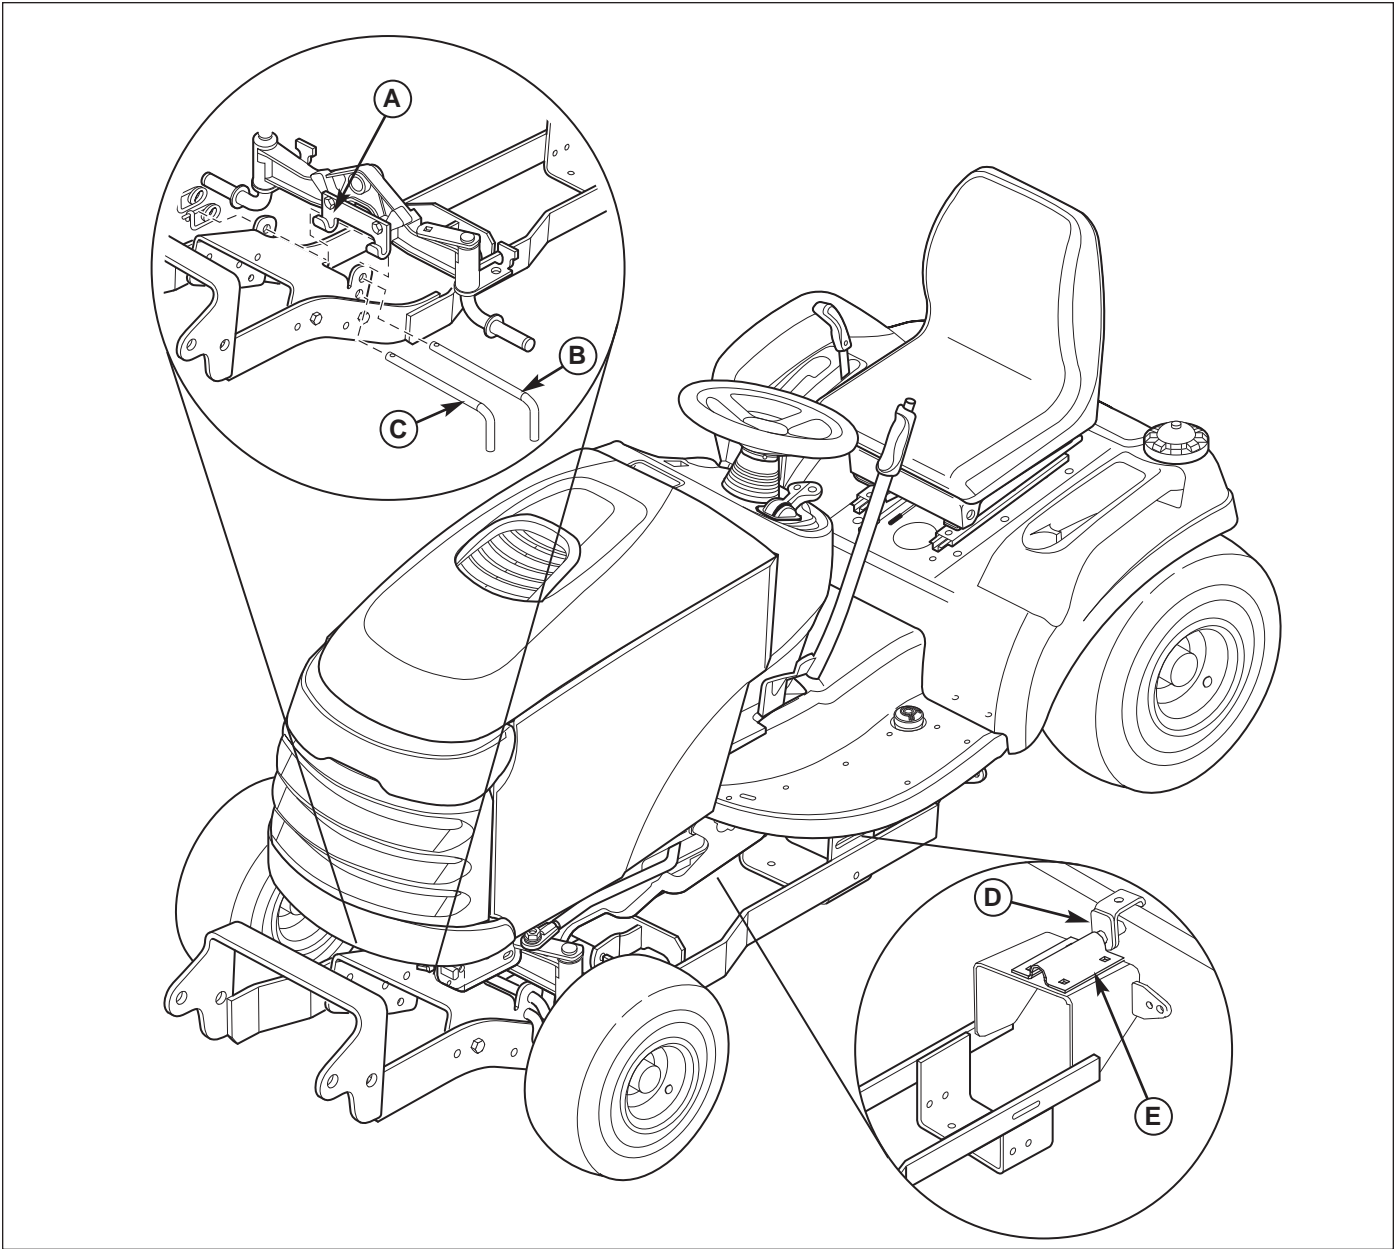
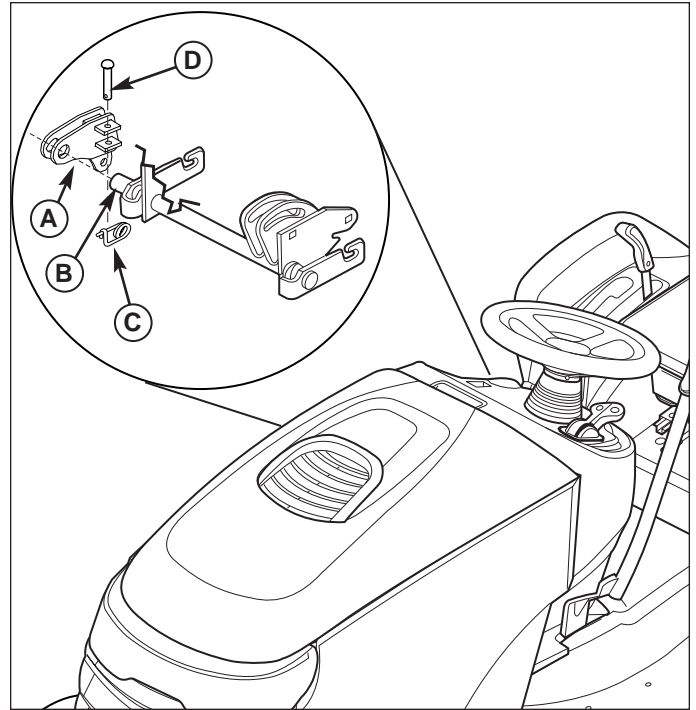

Figure 7. Install Hitch
Figure 8. Install Lift Lever
2. Raise the rear of the hitch and place the hook (C) over the lift shaft.
3. Connect the front of the hitch to the tractor J-hooks (A, Figure 7) using the hitch rod (B) and a safety clip in the top holes of the push bar latch.
4. Secure the front of the hitch to the tractor by attaching the hitch rod (C) and a safety clip in the bottom holes of the push bar latch.
5. Push the clamp plate (D) backwards until it is snug against the lift shaft. Tighten the clamp plate hardware (E).
1. Slide the lift lever (A, Figure 8) onto the end of the tractor lift shaft (B) under the right side footrest.
2. Use the tabs on the lift lever (A) to capture the tractor lift arm. Secure in place with a clevis pin (D) and safety clip (C).
2. Secure the front of the hitch to the J-hooks using the hitch rods (A) and (B) (Figure 7).
4. Install the lift lever (C).
5. Install the lift rod and attachment (Figure 8).